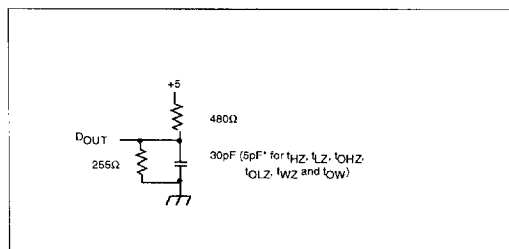

Figure 1. Output Load
7. Transition is measured ±200mV from steady state voltage prior to change with specified loading in Figure 1. This parameter is sampled and not 100% tested.
12. Transition is measured  $\pm 200\text{mV}$  from steady state voltage prior to change with specified loading in Figure 1. This parameter is sampled and not 100% tested.
Output Load	See Figures 1 and 2